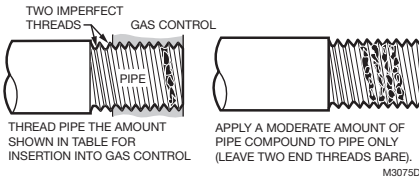

Fig. 2. Use moderate amount of pipe compound.
- Apply moderate amount of good quality pipe compound to adapter, leaving two end threads bare. Refer to Fig. 2. (On LP gas installations, use compound resistant to LP gas.) Do not use Teflon tape.